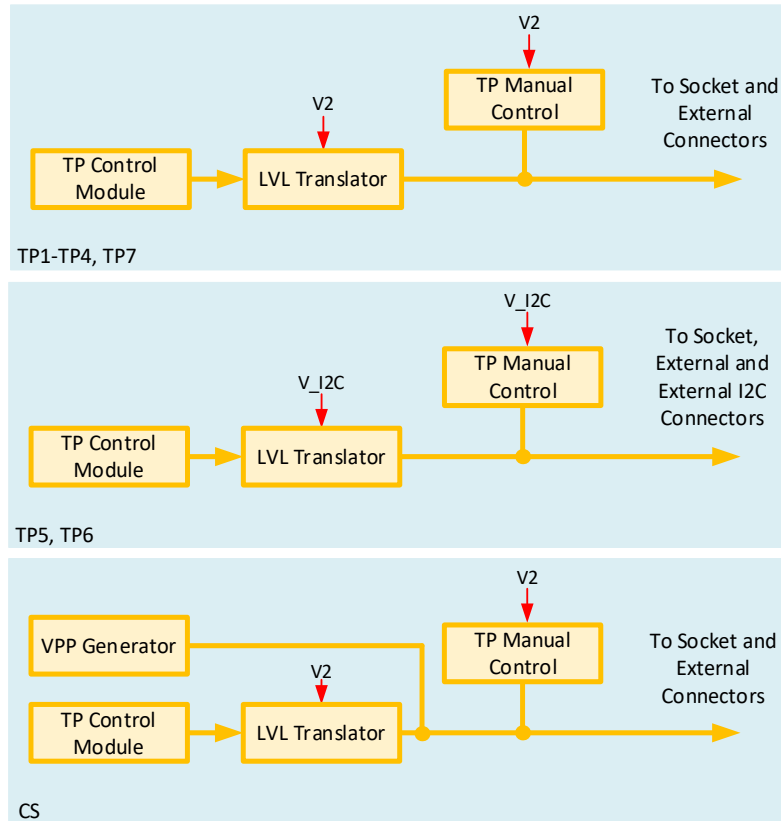

Figure 5. TP Control Structure
Figure 5 describes the TP control structure and shows the voltage reference to any TP. All TPs, except TP5 and TP6, belong to the V2 linear power channel. TP5 and TP6 belong to the V_I2C linear channel and can be used both as I²C TPs or state control TPs. The Chip Select (CS) TP belongs to V2 and has a VPP option available that can generate a higher voltage than V_{DD} in programming procedures.